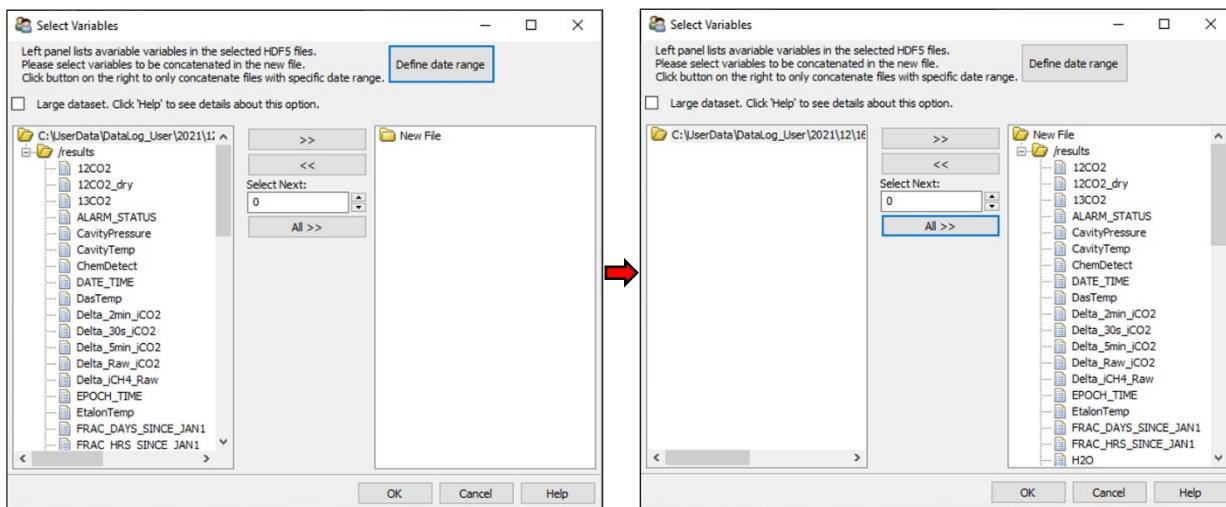

Figure 86: Selecting Variables for Concatenation
3. From **File** menu select **Concatenate H5 Files** (C) to combine the H5 files into a time series. Take care to select exactly the same folder in the file viewer window.
4. In the Select Variables window, click **All** to move over all variables for concatenation. If concatenating very long records, the user can instead select only a few variables by clicking the variable name on the left dialogue, and clicking the double arrow button. Confirm by clicking **OK**. (Figure 86).